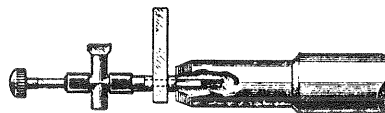

Figure 11—Special Soldering-Iron Tip
- (e) After properly locating the damping block, a soldering iron should be applied to the armature so that the block will melt slightly at its point of contact with the armature. A special tip, constructed as shown in Figure 11, will prove desirable for fusing the block in place. The iron should be applied long enough to slightly melt the block and cause a small bulge on both sides, but should not be applied long enough to cause any bubbling. The pickup should then be reassembled as described in the preceding section.